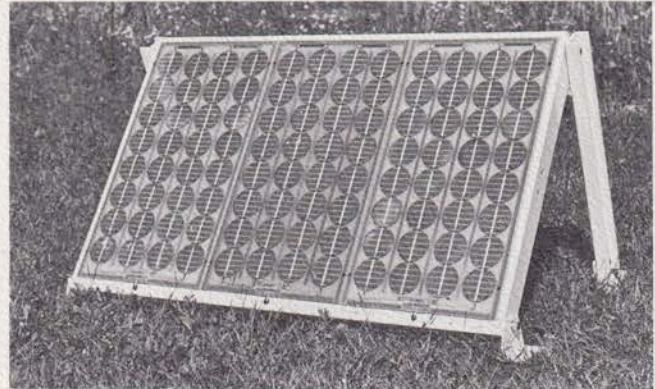

Fig. 2 18 Watt Array of Type 260 Unipanel
- 12 Volt Unipanel— all contain 32 solar cells connected in series (Figs. 2 and 4)